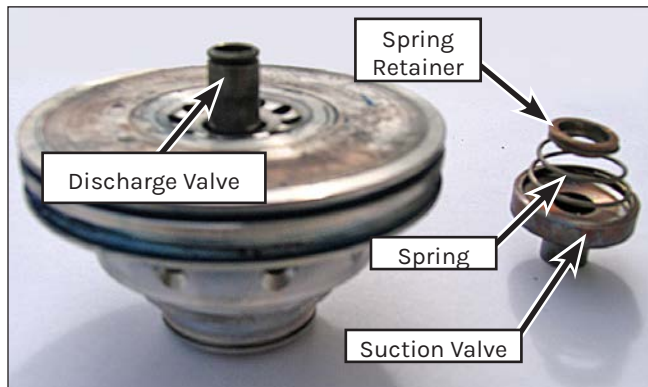

Figure 124: Valve Installation.
1. Install the discharge valve into the valve body (Figure 124).